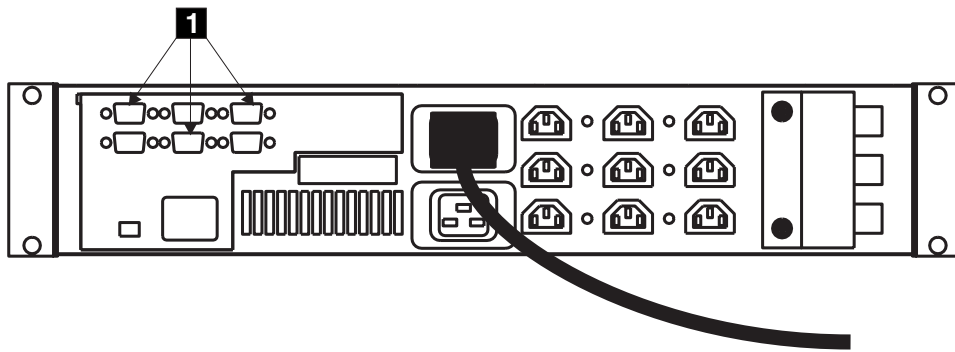

Figure 305. Connecting the 2145 uninterruptible power supply signal cables
4. At the back of the 2145 uninterruptible power supply, connect the signal cables (1 in Figure 305).